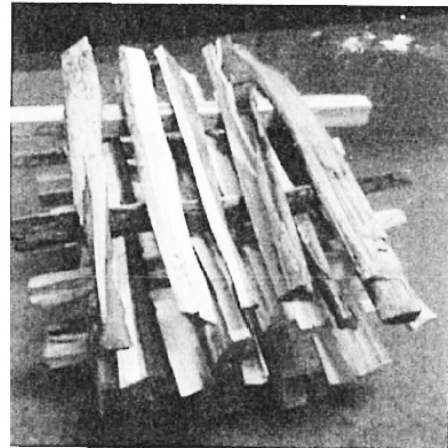

Figure 27. Criss-Cross Kindling Pattern
1. Cut and split kindling pieces approximately 16” long. The recommended piece size is 1/2 ” - 3/4” in cross section. The kindling should be very dry and the total weight would be about 4-1/2 lbs. if hardwood. A recommended stacking arrangement of the fuel pieces is shown in Figure 27.